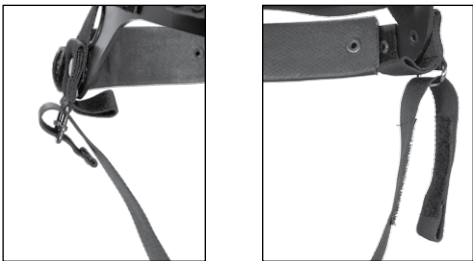

FIGURE 6.2. REMOVAL AND INSTALLATION OF CHINSTRAP
1. Remove the chinstrap (Figure 6.2) by unsnapping the Velcro tape from the left side of the headband. Unbuckle the chinstraps from narrow strap assembly.
2. Replace the chinstrap by using the Velcro tape on the left side of the headband. Lace the right straps into their respective sliding bar buckles on the right side of the headband for correct lacing (Figure 6.2).